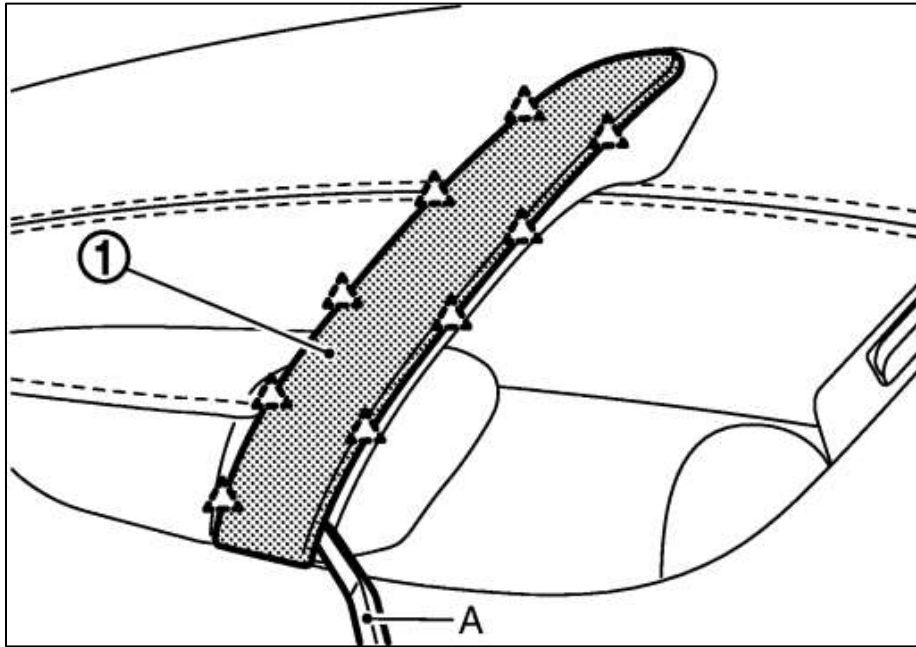

Figure 47
5. Remove the Trim Piece covering the Arm Rest. *Figure 47.*